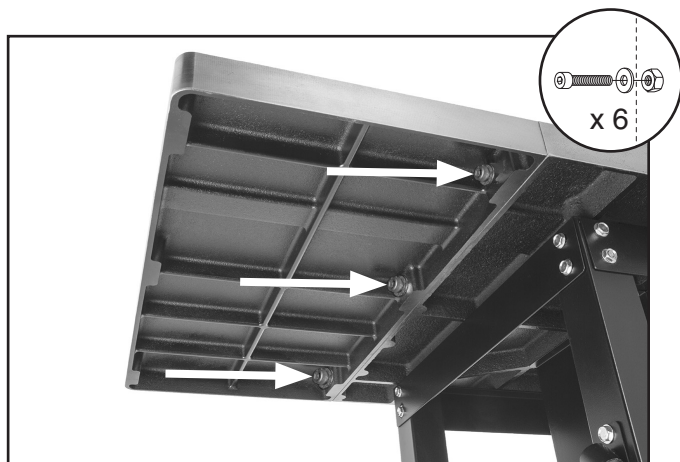

Figure 17. Extension wings installed.
7. **T28781 Only:** Attach right and left extension wings (see **Figure 17**) to router table with (6) $\frac{3}{8}$ "-16 x $1\frac{1}{2}$ " cap screws, (6) $\frac{3}{8}$ " flat washers, and (6) $\frac{3}{8}$ "-16 lock nuts.